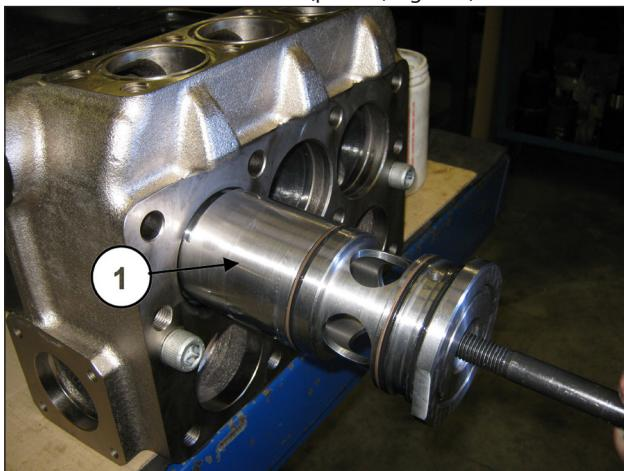

Fig. 109
Remove the sleeves containing the seals from the manifold using a slap hammer (code 27929400) to be fitted to the M16 hole on the end of the sleeves (pos. ①, Fig. 109).